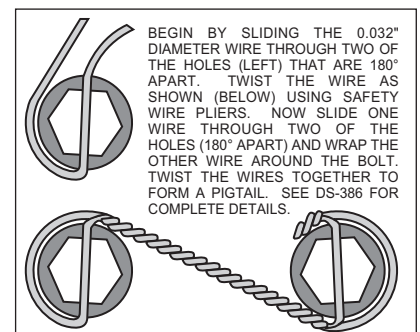

Figure 3. Safety Wire Diagram
- Position the caliper mounting bracket (1) on the spindle. **NOTE:** Be sure the heads of the caliper bracket (1) insert nuts are facing outward toward the wheel. Place one lock washer (2) on each of the three caliper bracket bolts (3). Mount bracket to the dust plate face of the spindle and align the three 3/8-16 holes in the spindle with the corresponding holes in the bracket (1). Apply red *Loctite*® 271 to all three bolt threads (3) and install. Torque bolts (3) to 260 **in-lb**.
- Install wheel studs (4) into the hub (5). Torque to 77 ft-lb. **NOTE:** There are two lug patterns of five holes each in the hub (5 x 4.50 and 5 x 4.75). Make sure of the correct hole pattern for the wheel application before installing the studs into the hub.
- Attach rotor adapter plate (8) to rotor (9) using bolts (10). Torque bolts (10) to 180 **in-lb**. Safety wire bolts (10) using standard 0.032 inch diameter stainless steel safety wire as shown in Figure 3. Please refer to Wilwood's data sheet DS-386 (available at www.wilwood.org/ds386.pdf) for complete safety wire installation instructions. **NOTE:** The large inside diameter side of the rotor (9) faces toward the rotor adapter plate (8) with the dished side of the rotor adapter plate (8) facing away from the rotor (9).
- Mount the adapter/rotor assembly (8 and 9) to the hub (5) using lock washers (11) and bolts (12). Torque bolts (12) to 22 ft-lb. Safety wire bolts (12).
- Pack the large inner bearing cone (6) with high temperature disc brake bearing grease (available from your local auto parts store) and install into the backside of the hub (5).